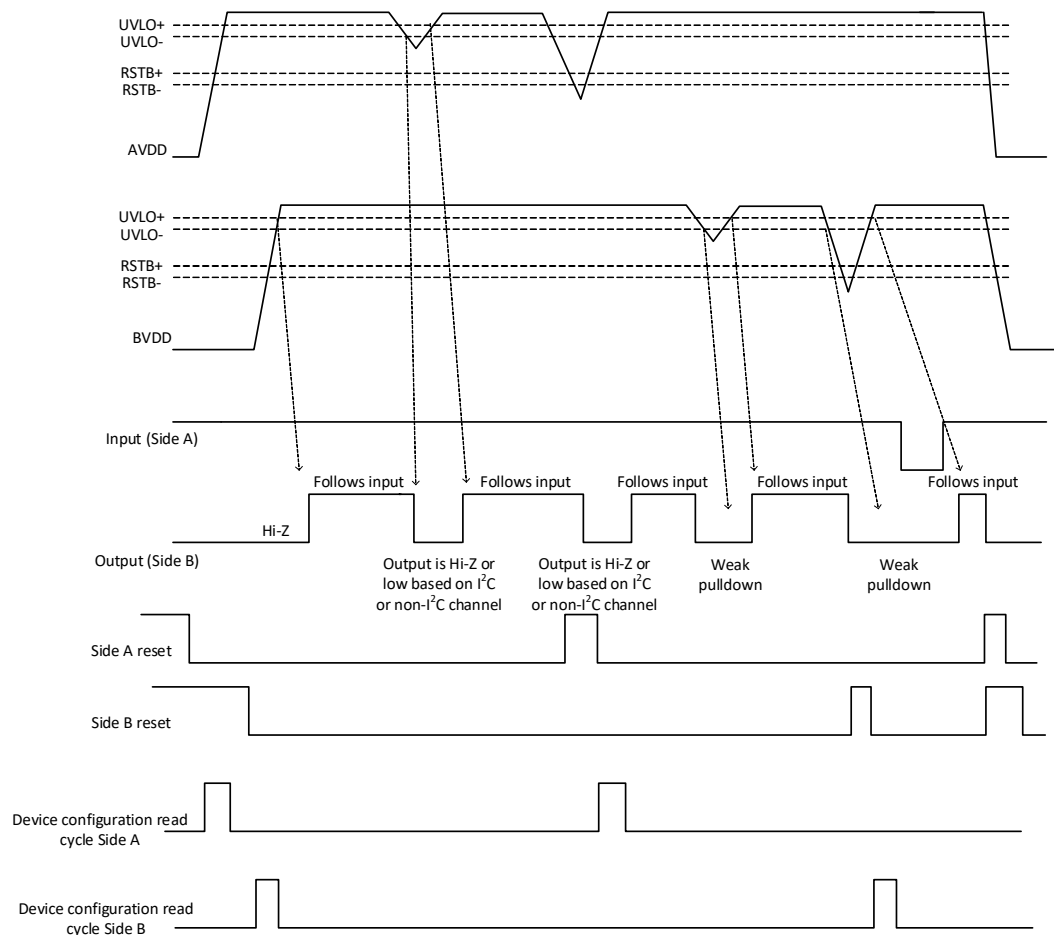

Figure 5. Device Behavior During Startup
Undervoltage Lockout (UVLO) is provided to prevent erroneous operation during device startup and shutdown or when VDD is below its specified operating circuits range. Side A and Side B each have their own undervoltage lockout monitors. Each side can enter or exit UVLO independently. For example, referring to Figure 5, Side A unconditionally enters UVLO when AVDD falls below UVLO– and exits UVLO when AVDD rises above UVLO+. Side B operates the same as Side A with respect to its BVDD supply.
4. Powered (P) state is defined as 3.0 V < VDD < 5.5 V.
5. Unpowered (UP) state is defined as VDD = 0 V.
6. Refer to Figure 5, "Device Behavior During Startup," on page 5. This shows the start-up time from unpowered state, below 1.7 V (RSTB) threshold to powered state, is 0.3 ms. If VDDO only dips below 2.1 V (VDDOK level in diagram below) but stays above RSTB level, the start-up time is 1  $\mu$ s.